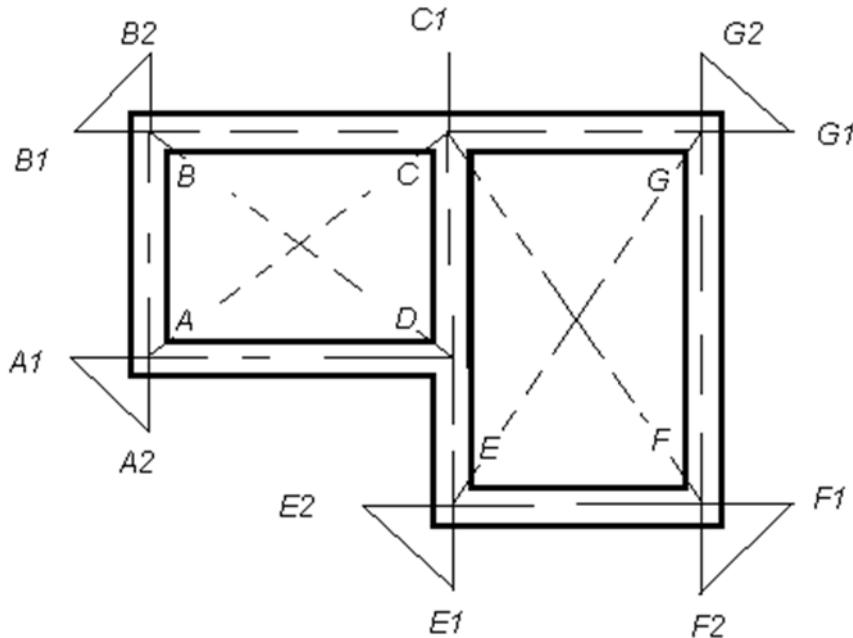

Fig.1: Example plan to be set out on the ground
1. From the plan (fig 1), the centre line of the walls are calculated. Then the centre lines of the rooms are set out by setting perpendiculars in the ratio 3:4:5. Suppose the corner points are a, b, c, d, e, f and g which are marked by pegs with nails on top.